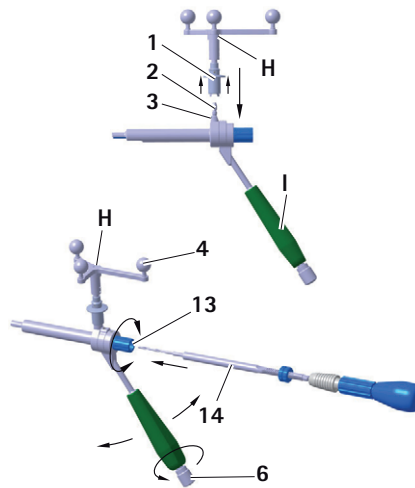

Fig. 10 Mounting the Aesculap star unit on the S4C guide sleeve for smooth-shaft screws
- ▶ To ensure that the camera has an unrestricted view of the reflective marker spheres, loosen knob 6 on the S4C handle of the S4C guide sleeve I and rotate Aesculap star unit H to the desired position, see Fig. 10.